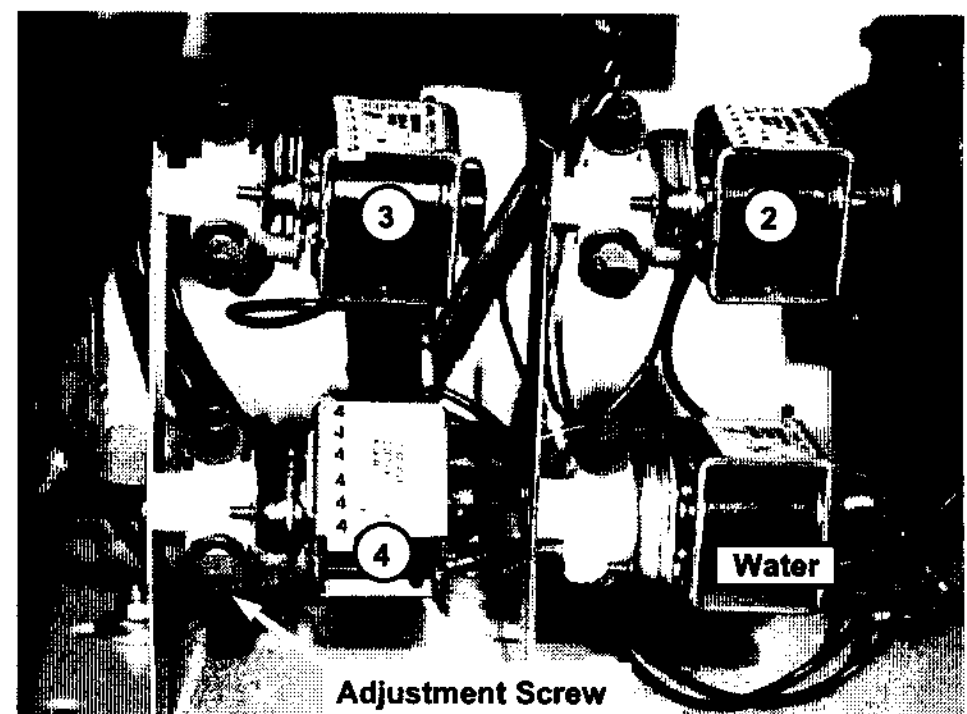

Fig. 45
All SAS machines are equipped with four (4) solenoid valves (Fig. 45) located behind an access panel on the right side panel facing the machine. The solenoid valve on the lower right is nonadjustable and is utilized to control water flow for the spinner rinse. The other three solenoid valves are adjustable and are utilized to regulate the amount of syrup injected into the vanilla shake base. These solenoid valves are chocolate (#2), strawberry (#3), and optional flavor (#4).